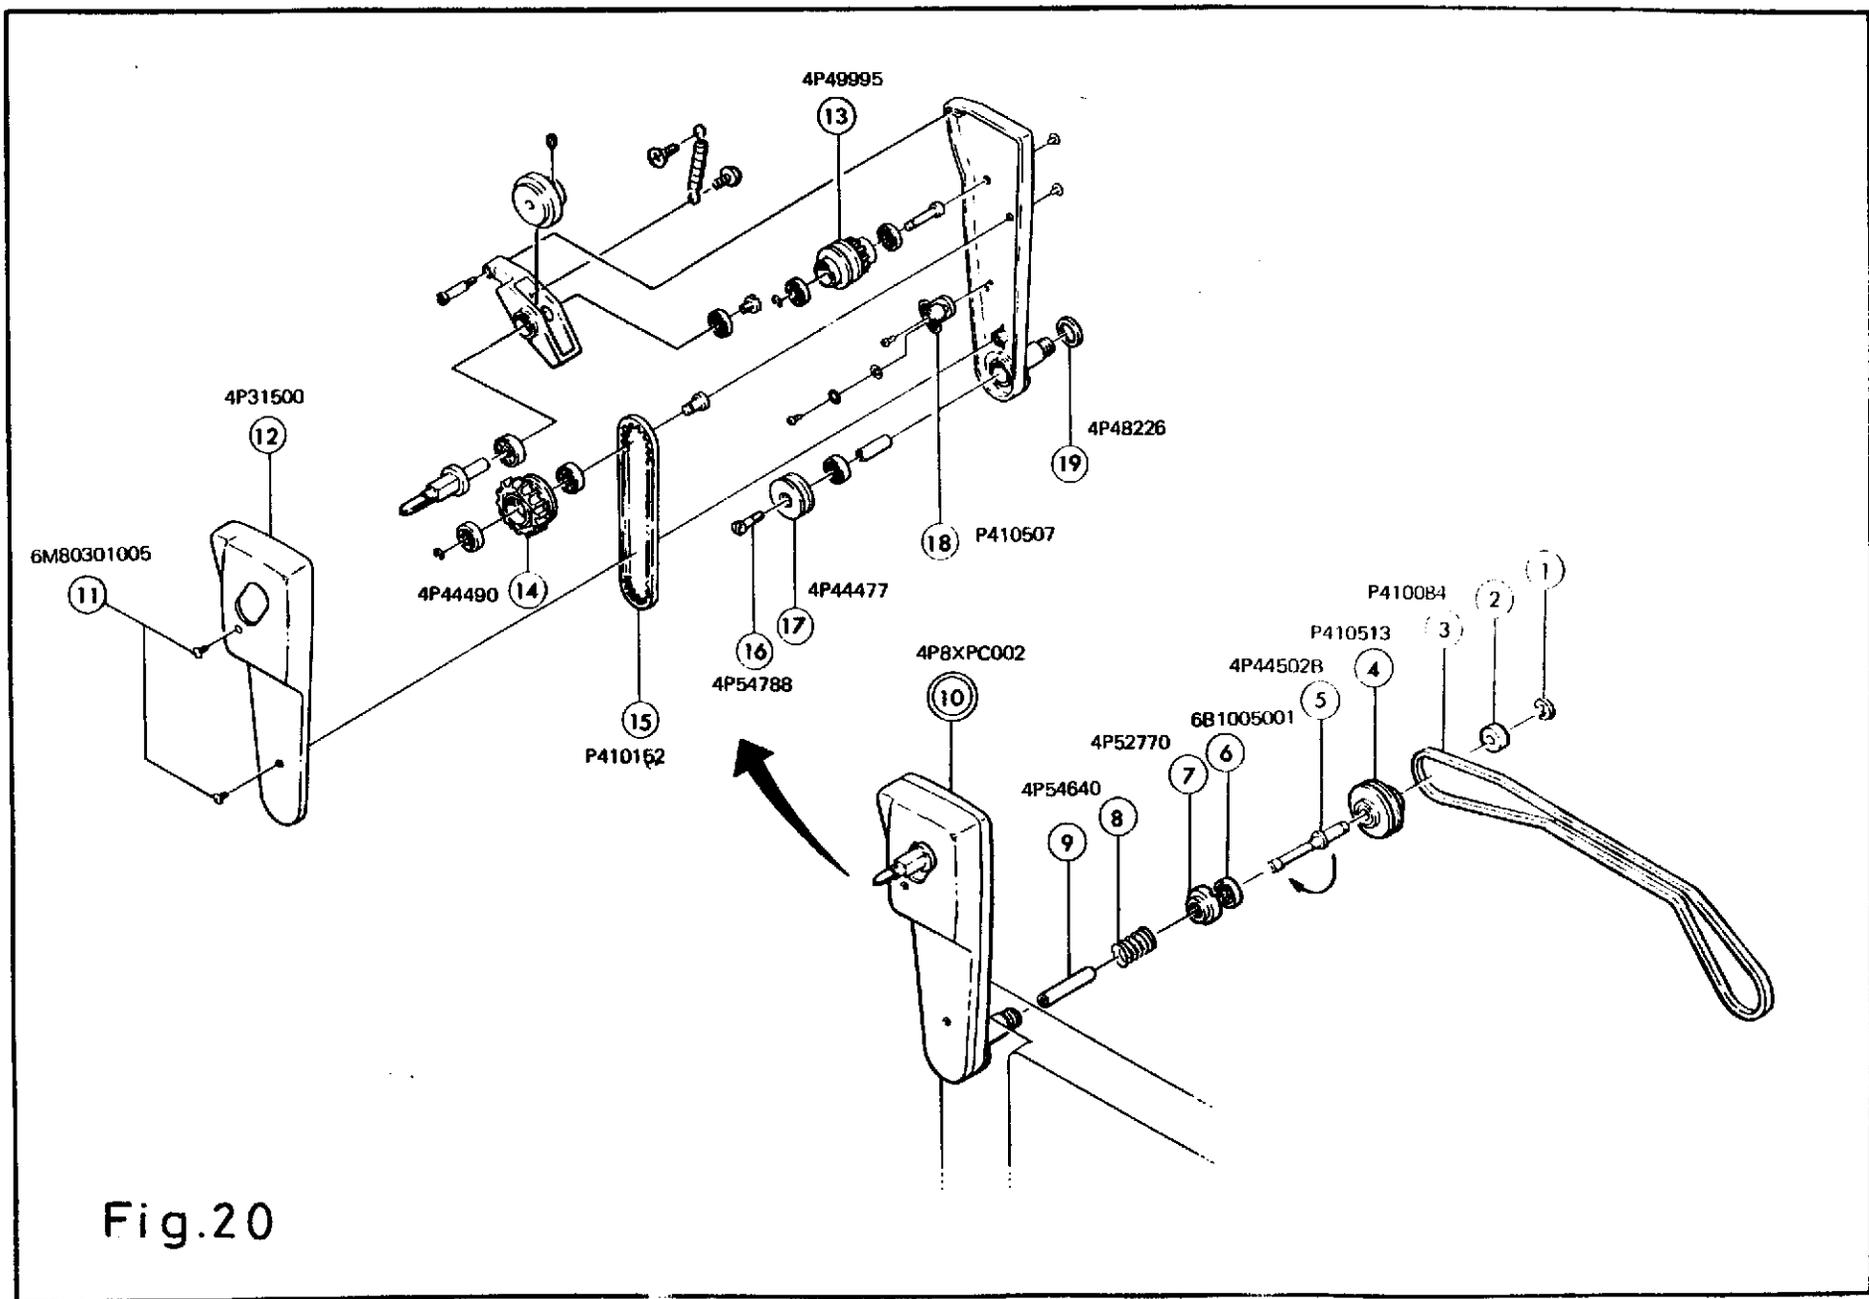

Fig.20
TRUBLESHOOTING: Refer to Fig. 20.
1. Remove (3). Refer to page 3.
2. Remove (1) to take (2)(4) off.
3. Unscrew (11) x 2 to remove (12).
4. Unscrew (16) to remove (17)(5)(6).
5. Remove (7) with use of arm-outer-shaft nut driver P016 to take (10) off.
6. Refer to Fig. 20 to disassemble further.